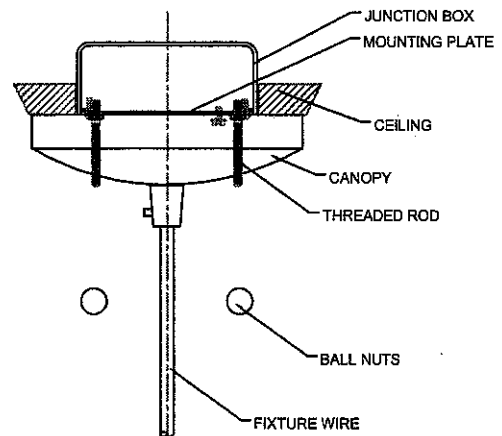

FIGURE-03
- Using the ball nuts, loosely fasten the fixture to the threaded rod on mounting plate. Rotate and align the canopy as necessary. Tighten the ball nuts. (See Figure-03)